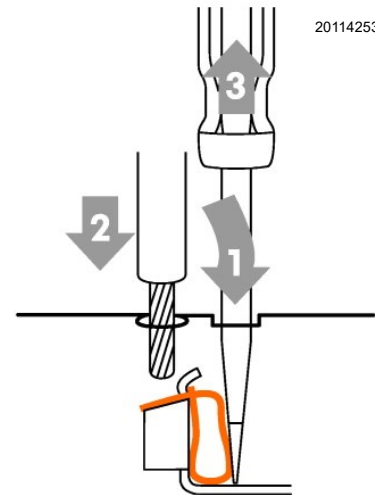

Fig. 35
- Insert the previously stripped cable and remove the screwdriver. Make sure the cable is securely fastened (Fig. 35).